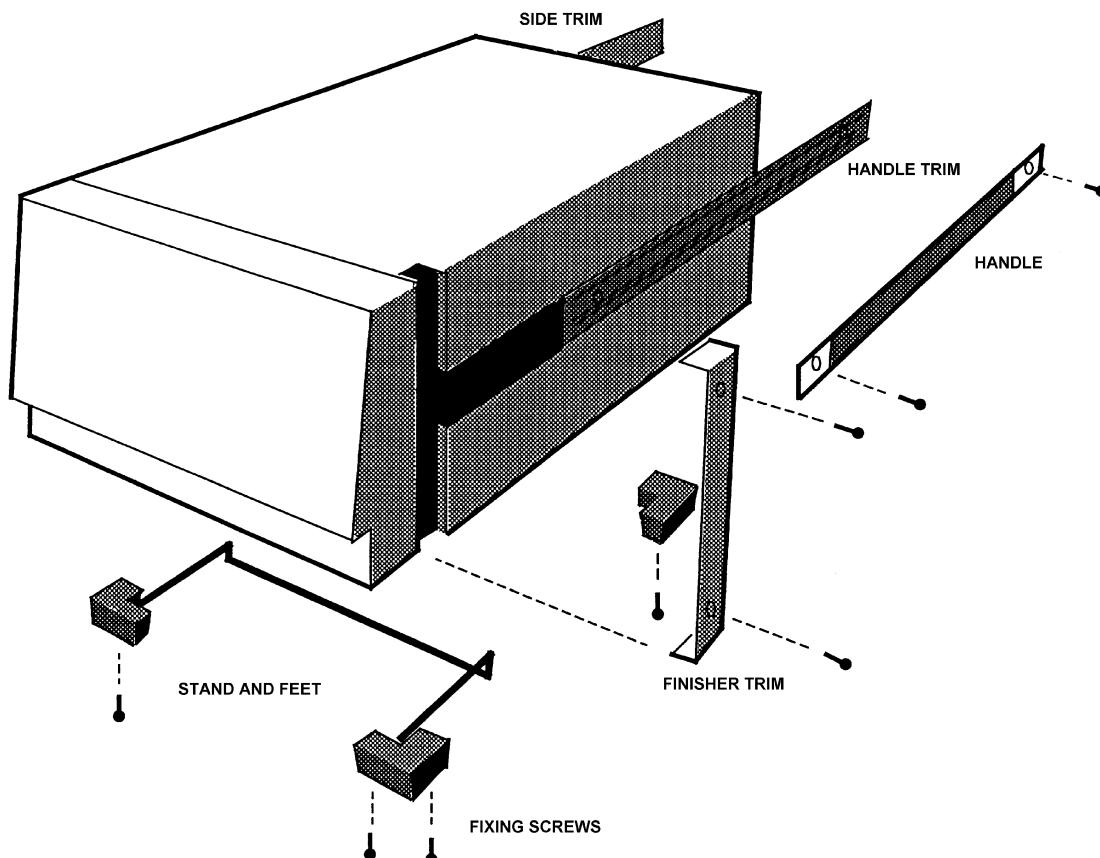

Figure 2.2 - Removal of trims, handle, feet, and tilt bar
1. Remove the following items from the unit, as shown in Fig. 2.2: